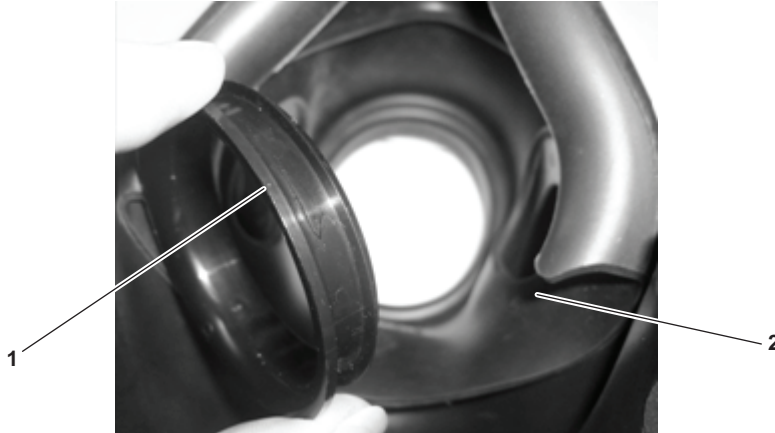

Figure 6-13. Install Retaining Ring
- (5) From inside the facepiece, firmly seat the small diameter of the retaining ring (figure 6-13, item 1) into the nosecup assembly (figure 6-13, item 2) as shown in figure 6-13. Ensure that the retaining ring fully seats in the groove of the nosecup assembly.